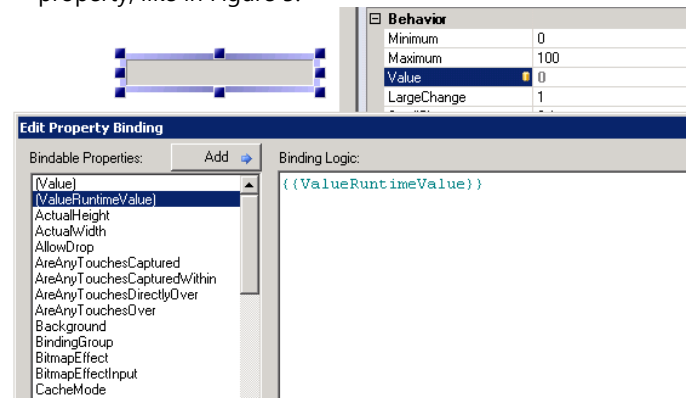

Figure 5 - Creating Binding to WPF Progress Bar
7. Drill into the symbol and select the Progress Bar Control again. Right-click on Value, select the **Smart Binding Editor**, and insert the **"(ValueRuntimeValue)"** bindable property, like in Figure 5.